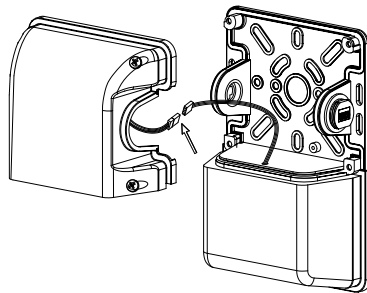

Fig 2
2. Unplug the male and female connector, then remove the driver box. (Fig 2)